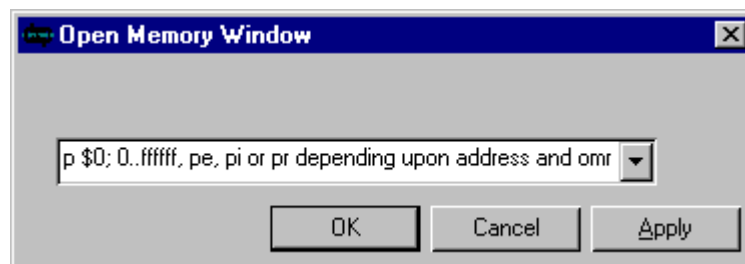

Figure 5-4. Open Memory Window Dialog Box
1. From the **Windows** menu choose **Memory** The dialog box in Figure 5-4 appears.